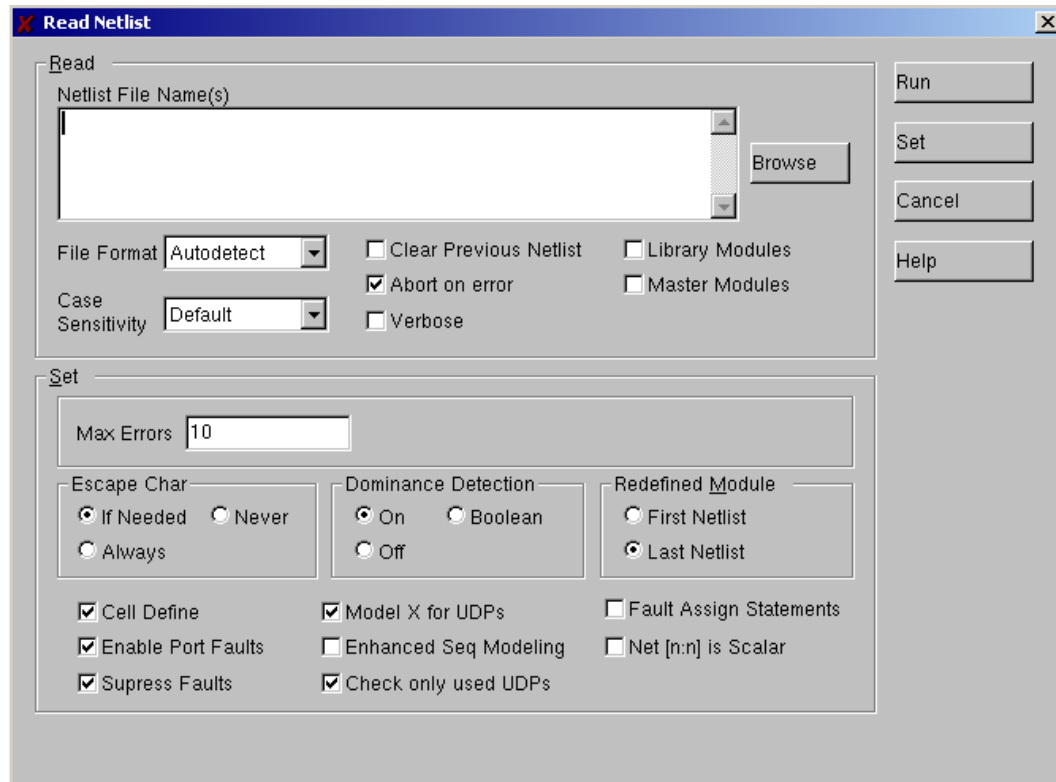

Figure 2: Read Netlist window
- Reading the description of the circuit: Using the **NetList** button you obtain the window shown in Figure 2. From this window, you must choose the input files, i.e. the library and the circuit description. First, you must read the **lib\_comb.v** file by checking **Library Modules**. This file contains the gates used in the description of the circuit to be tested. Finally, you must again click on **NetList** to read your **Verilog description** without checking **Library Modules**.